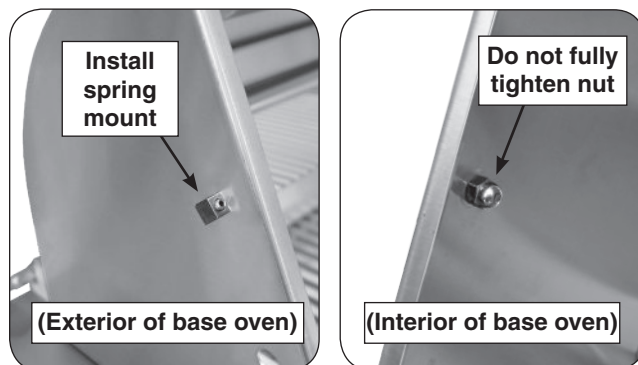

Fig. 3-2 Install spring mount (on base oven)
8. BASE OVEN SIDE WALL: install the new mounting hardware. Do not fully tighten. Leave slightly loosened to allow some play for the next step. See Fig. 3-2.
11. Fully tighten the spring mount from inside the base oven. Reference Fig. 3-2.